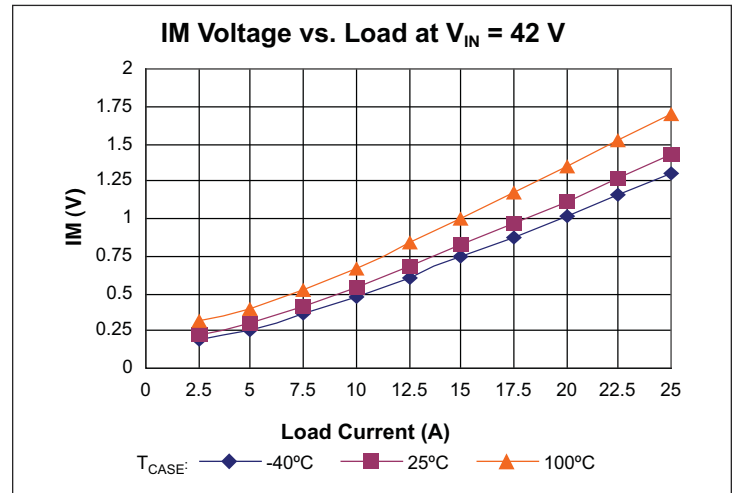

Figure 8 – IM voltage vs. load
**Current Monitor (IM)** pin provides a voltage proportional to the output current of the VTM. The nominal voltage will vary between 0.2 V and 1.39 V over the output current range of the VTM (See Figures 8–10). The accuracy of the IM pin will be within 25% under all line and temperature conditions between 50% and 100% load.